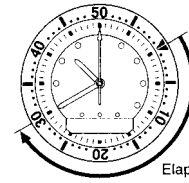

Fig. 1
2. The watch is next checked at 10:40. To determine the elapsed time, read the number of the register-ring at the minute hand position. The elapsed time is 30 minutes (fig. 1).